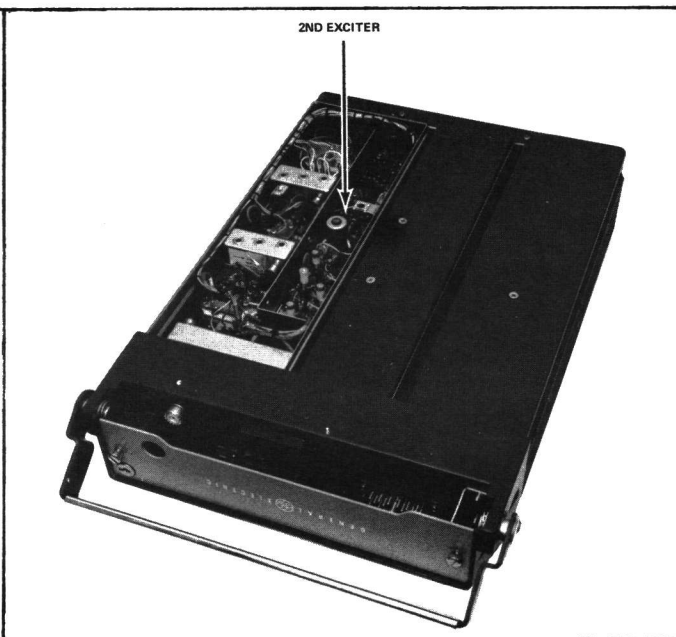

Figure 3 - Bottom Cover Removed
To service the transmitter from the top (Figure 3):
To service the transmitter from the bottom (Figure 3):
1. Loosen the two retaining screws in the front casting (see Figure 3) and pull casting away from the system frame.